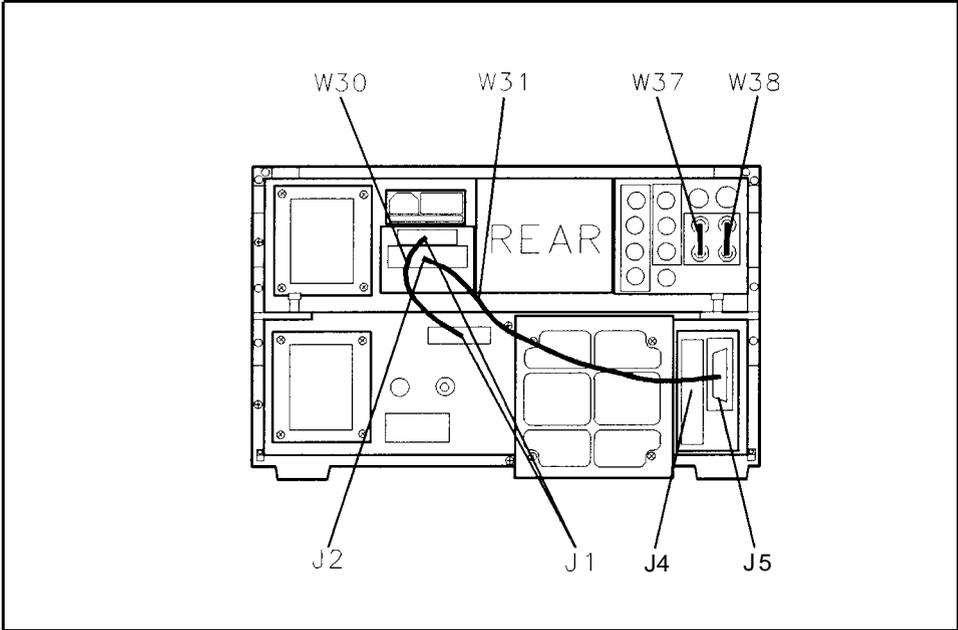

Figure 2-7. Rear-Panel Cable Connections
- 11. Connect cable W31 between IF-Display section J2 and RF section J6. See Figure 2-7.